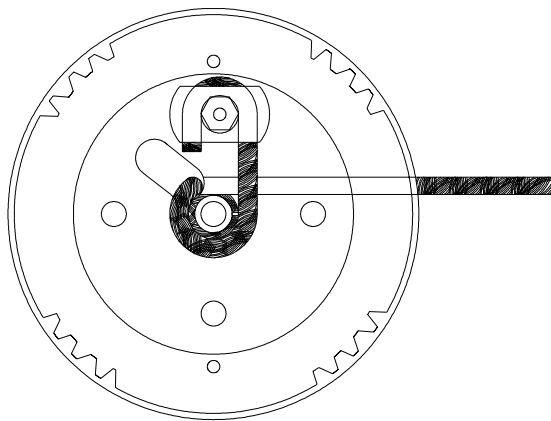

Figure 3
- 13 Route and secure the loose end of the wire rope to the winch with the clamps provided as shown in **Figure 3**.